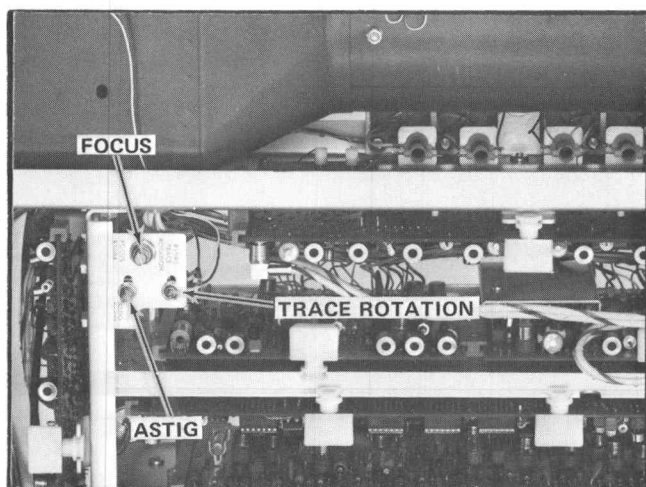

Fig. 5-6. Location of Focus, Astigmatism, and Trace Rotation adjustments.
a. While positioning the writing beam to the 4 quadrants of the storage CRT, adjust the focus control (R1084 and the astigmatism control) R1092 (see Fig. 5-6) for a well defined display.
g. Adjust the Trace Rotation, R1090, (see Fig. 5-6) until the horizontal trace is parallel to the graticule lines.